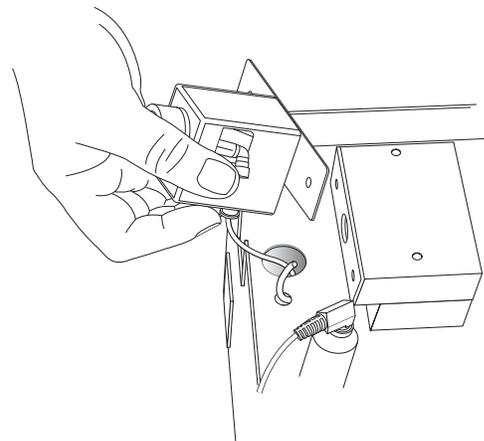

Figure 4-20
- 3 Lift the manifold and depress the tube compression fitting to remove the tube connected underneath the manifold (Figure 4-20). Remove the manifold.